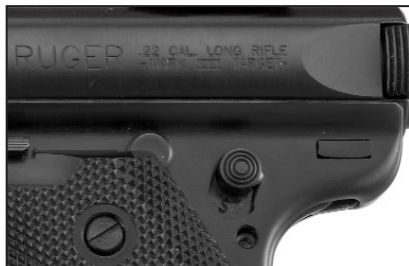

Figure 2. Safety in the “on” or “safe” (S) position. Safety is all the way up.
4. **Engage the safety by moving it fully upward so the “S” shows completely.** (See Figure 2, p. 10.)
5. Put ten (10) or fewer .22 caliber Long Rifle cartridges into the magazine. In loading the magazine make sure that all of the cartridges lie parallel and evenly in the magazine. The follower button on the left side of the magazine is used to lower the follower so the cartridges can be readily inserted.
7. **Don't touch the trigger.** Pull the bolt to the rear as far as it will go. (See Figure 4, above.) Release the bolt so that it will fly forward. (On 22/45 models, the bolt stop must also be depressed to permit the bolt to fly forward.) This will place a cartridge into the firing chamber. **If the pistol is not to be fired immediately, the safety button should remain “on” — with the “S” showing.** (See Figure 2, p. 10.)